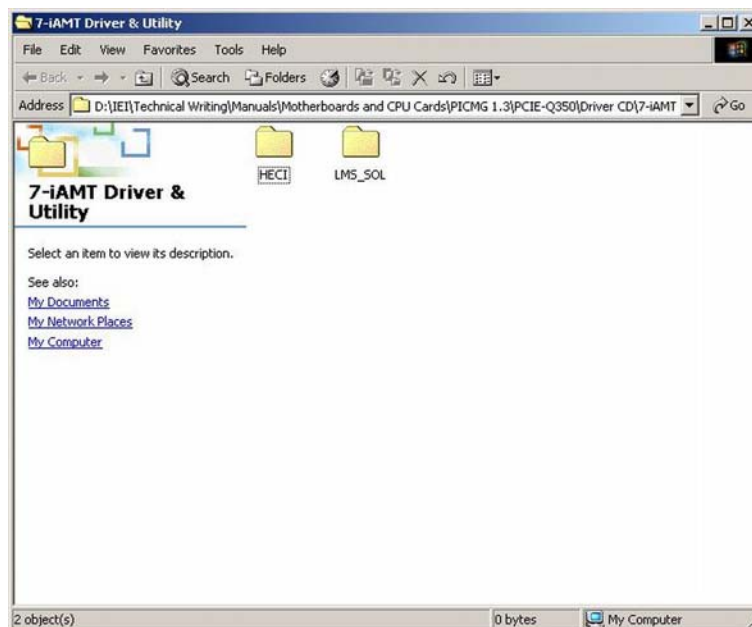

Figure 7-61: IAMT Driver Directory
Step 2: The screen in **Figure 7-61** appears.